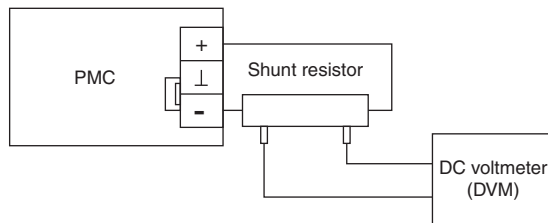

Fig. 5-4 Connection for current system calibration
2. Connect the cables as shown in Fig. 5-4.